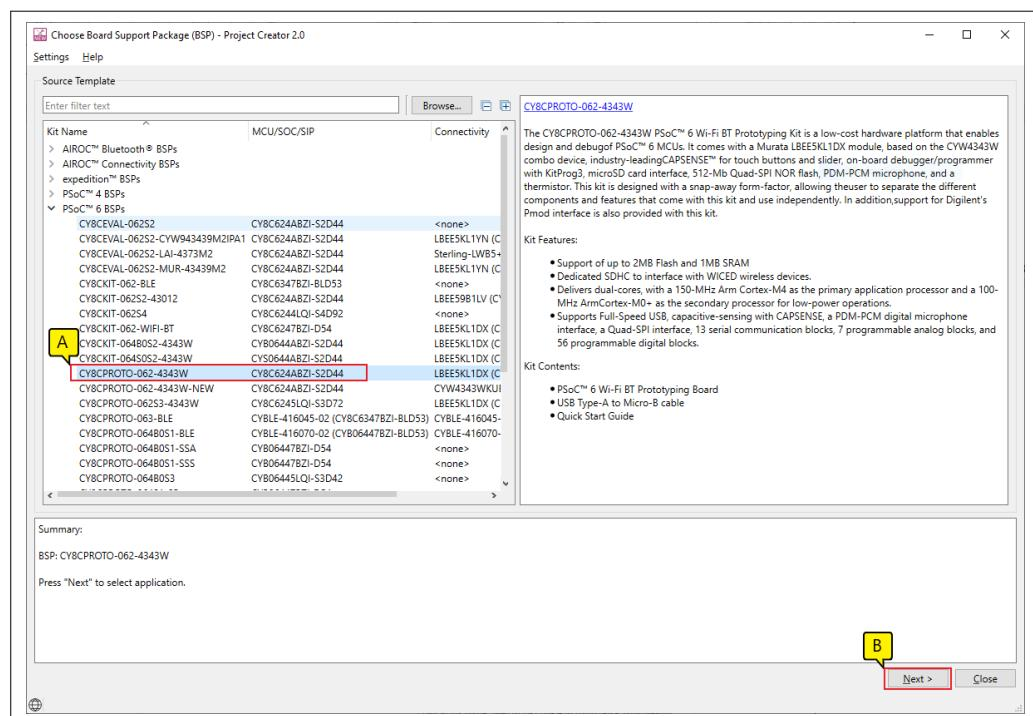

Figure 15 Choose target hardware
- In the **Choose Board Support Package (BSP)** dialog, choose the **Kit Name** that you have. The steps that follow use **CY8CPROTO-062-4343W**. See Figure 15 for help with this step